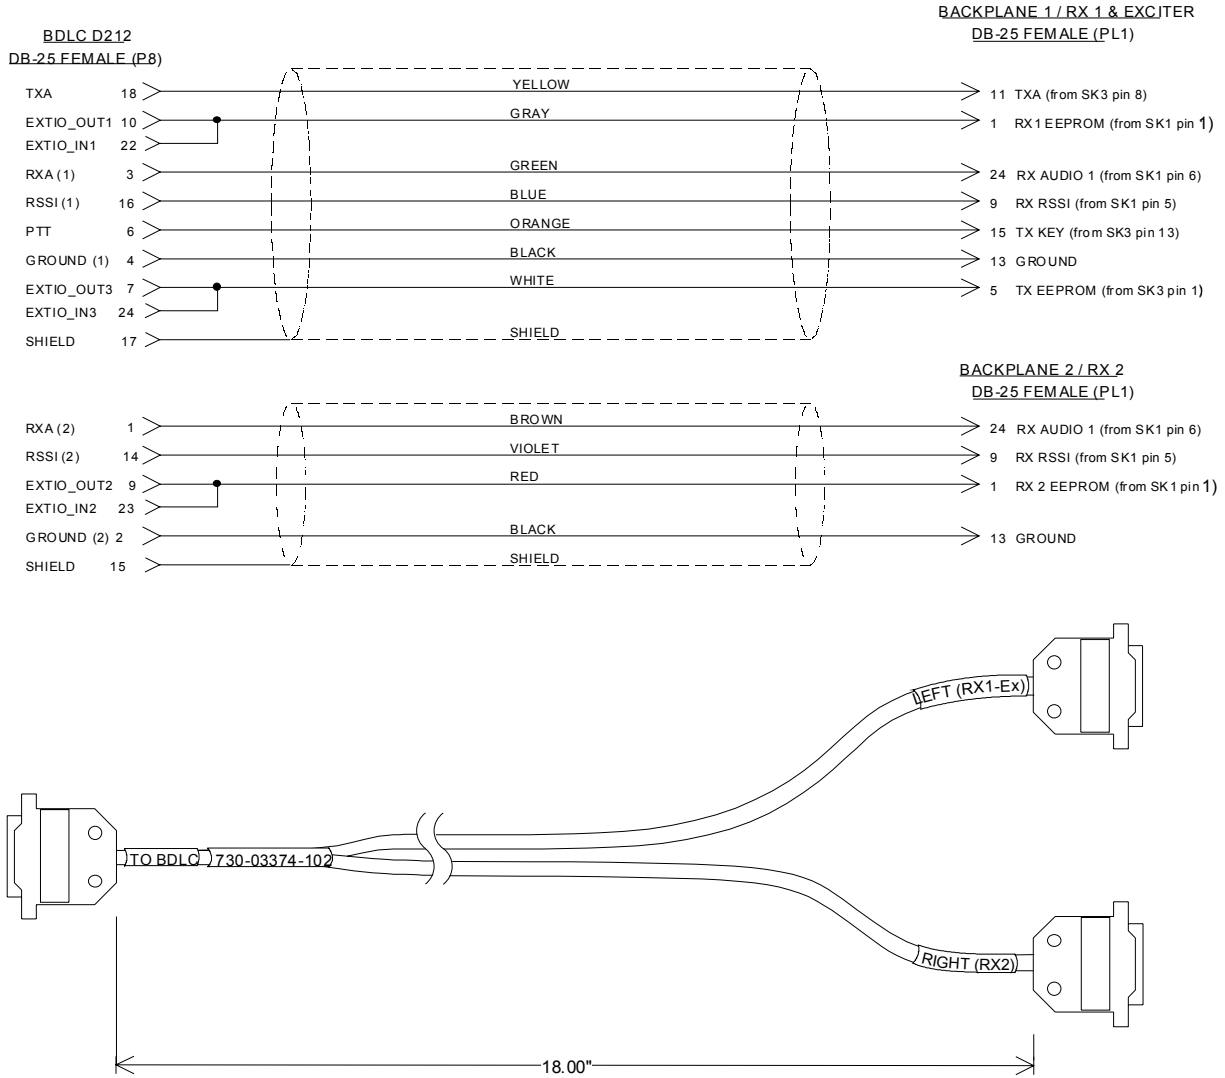

Figure 15 - BDL CPD Y cable and pinout
- EXT RADIO/TEST - connects to the Radio assembly through the radio interface cable (see Figure 15)